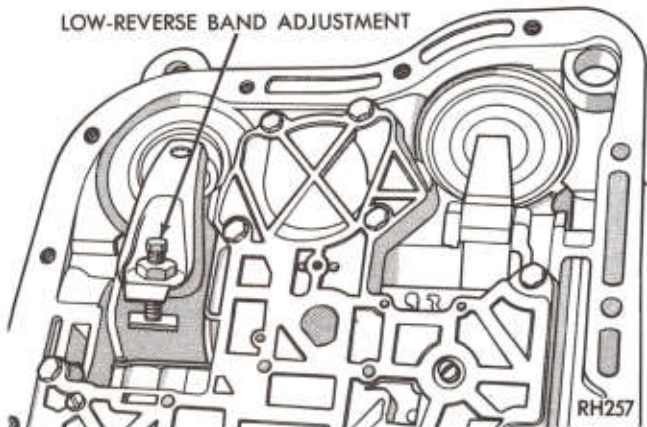

Fig. 4—Low-Reverse Band Adjustment
- (1) Raise vehicle, drain transmission fluid from loosened oil pan and remove oil pan.
- (2) Loosen adjusting screw lock nut and back off lock nut approximately five turns (Fig. 4). Test adjusting screw for free turning in the lever.
- (3) Using wrench, Tool C-3380-A, tighten band adjusting screw to 72 in. lbs. (8 N·m).
- (4) Back off adjusting screw the number of turns listed in "Specifications". Hold adjusting screw in this position and tighten lock nut to 25 ft. lbs. (34 N·m).
- (5) Reinstall oil pan using a new gasket. Tighten oil pan bolts to 150 in. lbs. (17 N·m).
- (6) Fill transmission with MOPAR ATF PLUS (Automatic Transmission Fluid) Type 7176.